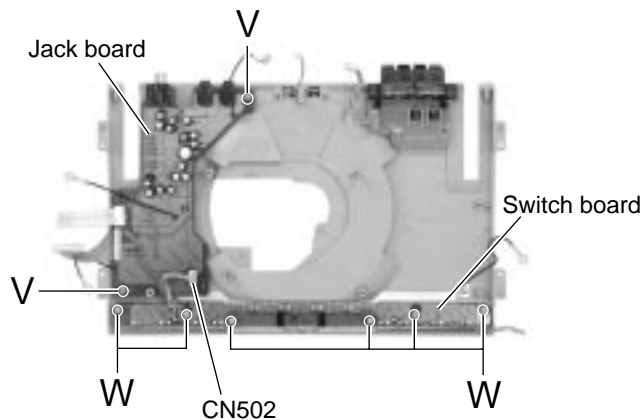

Fig.35
■ Removing the jack board (See Fig.35)
■ Removing the switch board (See Fig.35)